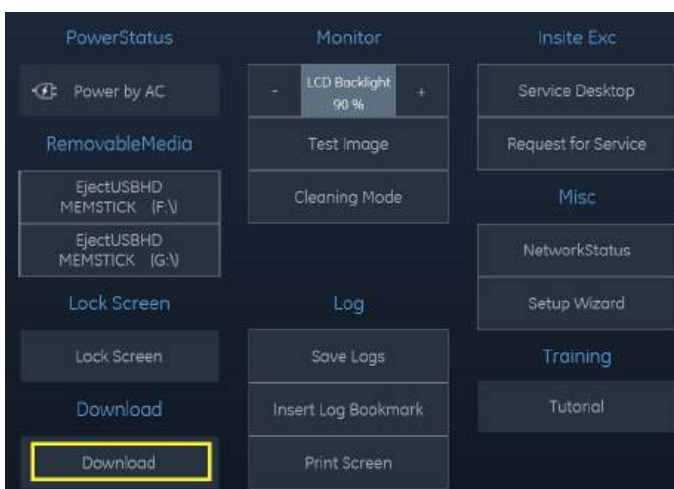

Figure 8-54. Press Download Button
2. Press the **Download** button at the top right of the display screen (Figure 8-54), or go to **About** page to press **Reload Software** button (Figure 8-56).